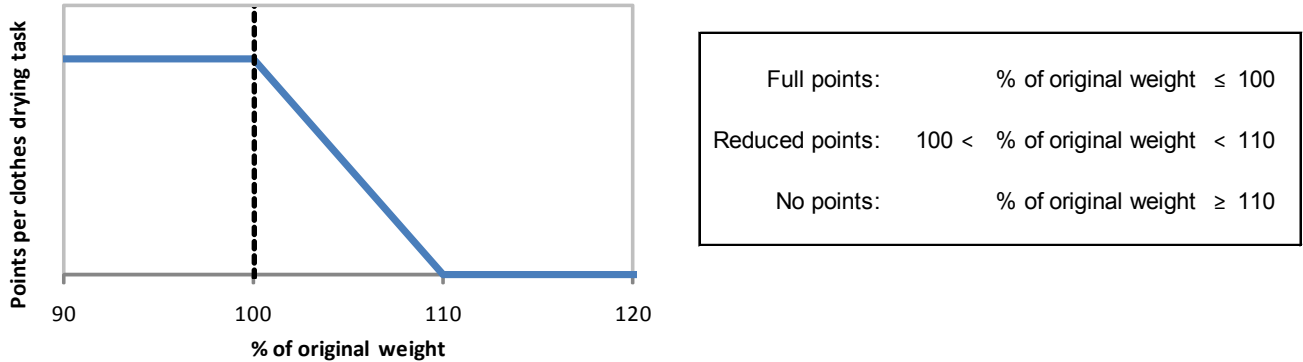

Figure 8: Scoring function for the Clothes Dryer Subcontest
- Reduced points are earned if the “dry” towel weight is between 100.0% and 110.0% of the original towel weight. Reduced point values are scaled linearly, as shown in Figure 8.